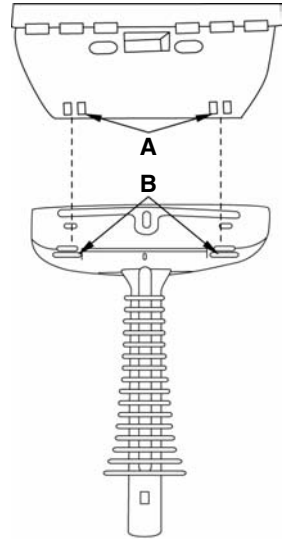

FIGURE 6
1. Connect Squeegee to Wide Nozzle by inserting hook tabs on bottom of Squeegee (FIGURE 6-A) into slots on bottom of Wide Steam Nozzle (FIGURE 6-B).